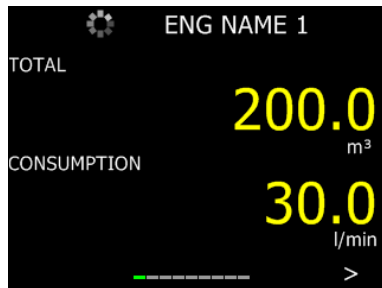

Figure 29: Menu 1
On the screens of Menu 1 (B) (Figure 29, 30), the Total consumption of the engines (both fuel types together) and the current Consumption rate is displayed.